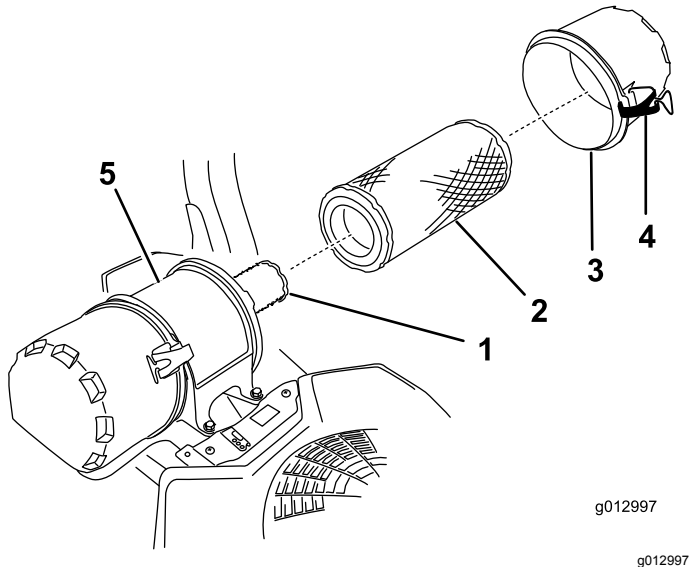

Figure 37
6. Release the latches on the air cleaner and pull the air-cleaner cover off the air-cleaner body (Figure 37).
8. Gently slide the primary filter out of the air-cleaner body (Figure 37).
- If you are replacing the safety filter, carefully slide it into the filter body (Figure 37).
- Carefully slide the primary filter over the safety filter (Figure 37).
- Install the air-cleaner cover and secure the latches (Figure 37).